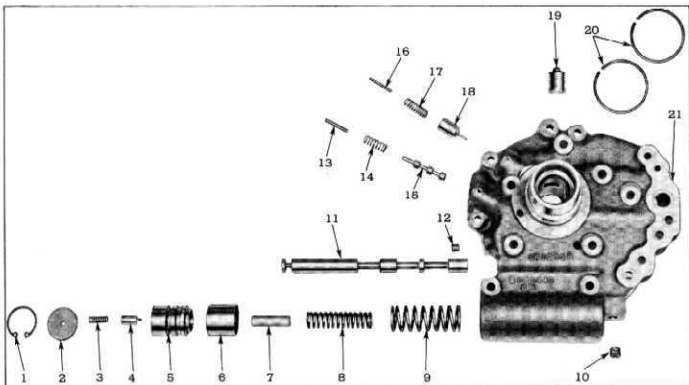

Fig. 187—Layout of Valve Body
- Figure 187 shows layout of valve body parts.